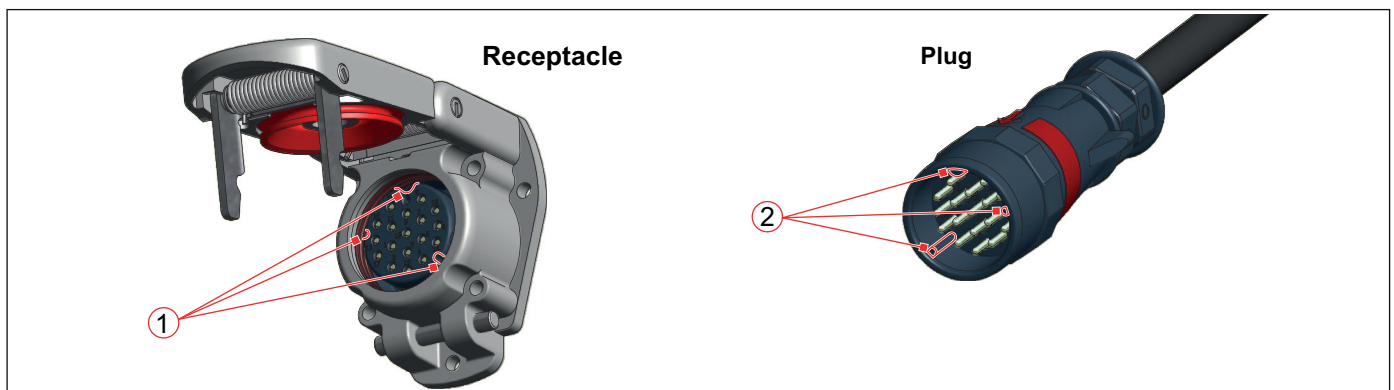

Fig. 19: Slots (1) on receptacle and guideways (2) on plug
- ▶ Make sure that the slots (1) and guideways (2) of receptacle and plug always interlock when plugging (*Fig. 19*)!
Then insert the plug in such a way that the guide-ways (2) in the plug slide without much effort into the slots (1) of the receptacle (refer to **Fig. 19**).